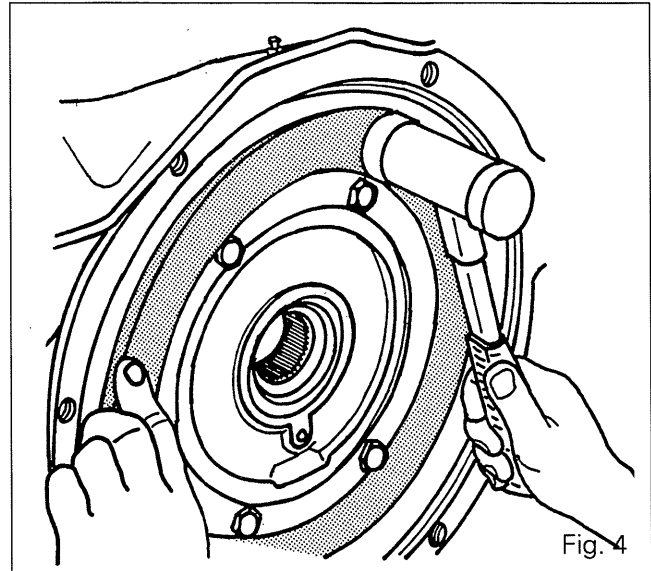

Fig. 4
7. Position the piston on the dowels and then fit it in place by means of a plastic mallet, striking alternate points around the circumference (Fig. 4).